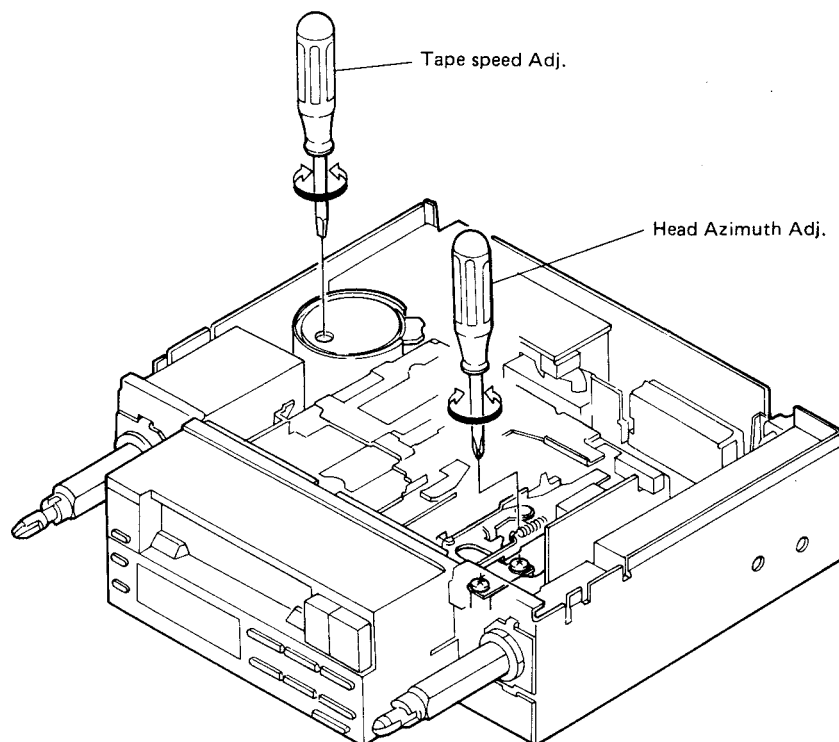

Fig. 1
- Connection Diagram (shown in Fig. 1)